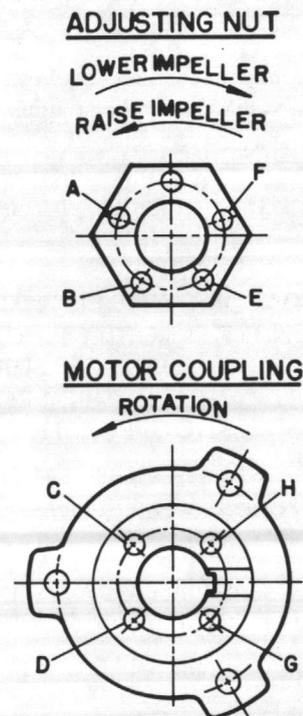

Figure 10-2 Impeller Adjustment
A. With impellers touching bowl faces, turn adjusting nut (604) counterclockwise until face of the nut makes contact with motor coupling.
B. Align hole "A" in adjusting nut and hole "C" in motor coupling. (SEE FIGURE 10-2).